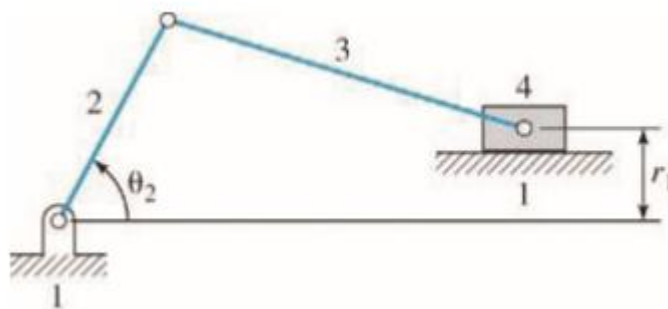

Fig. 2
2. Given $r_1 = 10$ mm and $r_3 = 25$ mm for a slider crank mechanism as shown in Fig. 2